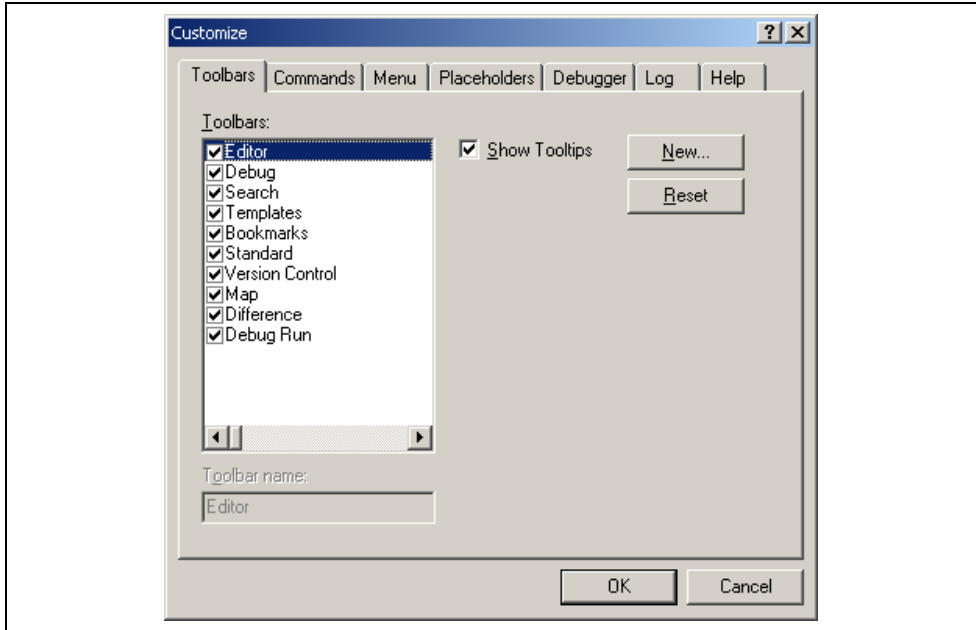
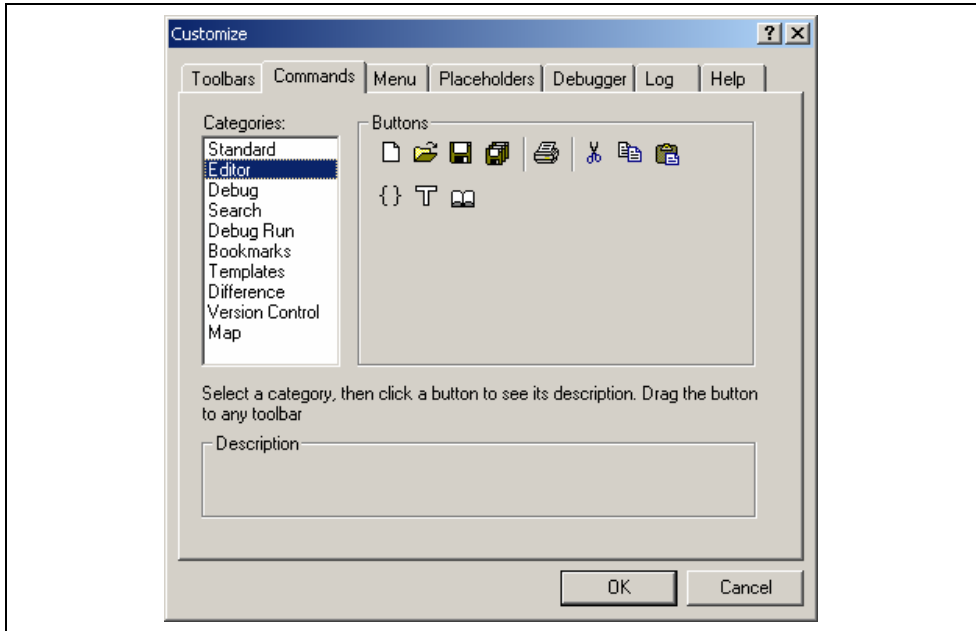
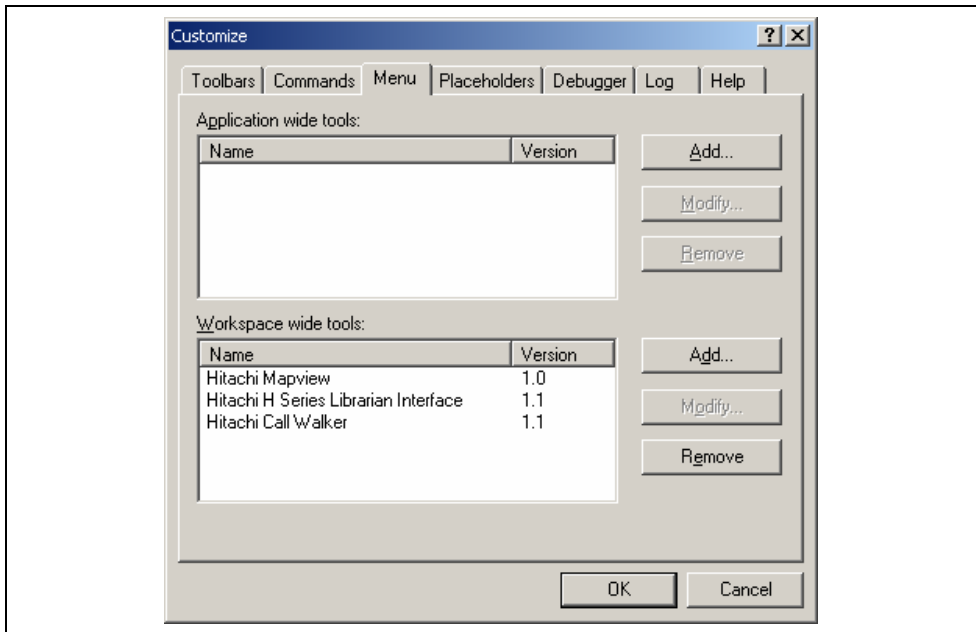
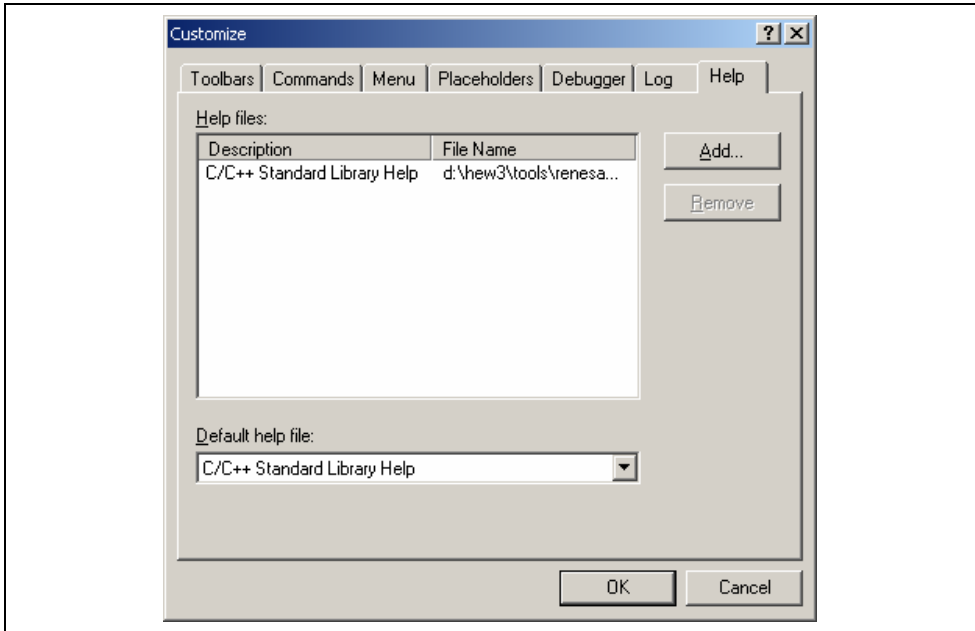

Figure 6.1: Customize Dialog Toolbars Tab
Figure 6.3: Customize Dialog Commands Tab
Figure 6.4: Customize Dialog Menu Tab
Figure 6.7: Customize Dialog Help Tab
The High-performance Embedded Workshop provides 2 standard toolbars as detailed in chapter 1, “*Overview*”. In addition to these, you may also construct your own toolbars via the “Customize” dialog (figure 6.1).
1. Select [**Tools->Customize...**]. The dialog shown in figure 6.1 will be displayed.
1. Select **[Tools->Customize...]**. The dialog shown in figure 6.1 will be displayed. Select the “Commands” tab (see figure 6.3).
1. Select [**Tools->Customize...**]. The dialog shown in figure 6.1 will be displayed. Select the “Commands” tab (see figure 6.3).
2. Select the user-defined toolbar from the “Toolbars” list, and the “Reset” button in figure 6.1 changes to the “Delete” button. Then click the “Delete” button.
1. Select [**Tools->Customize...**]. The dialog shown in figure 6.1 will be displayed. Select the “Menu” tab (see figure 6.4). The first thing for you to decide is whether you are adding a global application wide tool (“Application wide tools:”), which will be available to all of your workspaces. Or whether you wish to add a workspace wide tool (“Workspace wide tool:”), which is only valid for the current workspace. Once you have made the choice choose the relevant section of the dialog.
1. Select [**Tools->Customize...**]. The dialog shown in figure 6.1 will be displayed. Select the “Menu” tab (see figure 6.4).
1. Select [**Tools->Customize...**]. The dialog shown in figure 6.1 will be displayed. Select the “Help” tab (see figure 6.7).